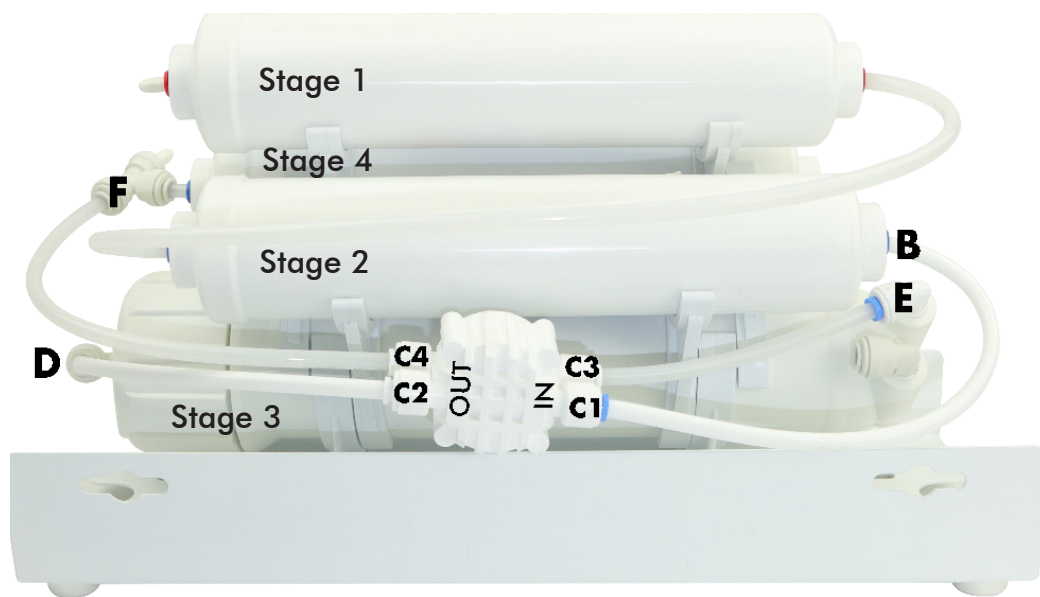

Fig. 17
- ASO connection Error —> See **Fig. 17** to reconnect ASO to the correct connection.
- Disconnect the water tubing at Stage 3 output **Point C1 (Fig. 17)** and aim the tubing at the bucket. **Point D** is the stage 4 RO filter inlet tubing.
When RO makes a humming noise, most likely it's caused by air bubbles being trapped in the "Check Valve" during installation. See check valve on **Fig. 17, point E (Page 27)**.